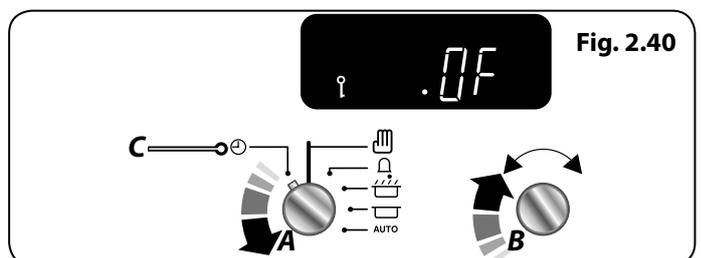

Fig. 2.40
3. Continue to hold the **Timer (A)** knob onto the **Clock (C)** setting, turn the **Adjusting (B)** knob clockwise, the 'OF' and the 'Key' symbol will display (**Fig. 2.40**). The oven is now locked.
4. To activate repeat steps 1 to 2 and continue to hold the **Timer (A)** knob onto the **Clock (C)** setting, turn the **Adjusting (B)** knob clockwise to 'ON', the 'Key' symbol will disappear and the oven is enabled.